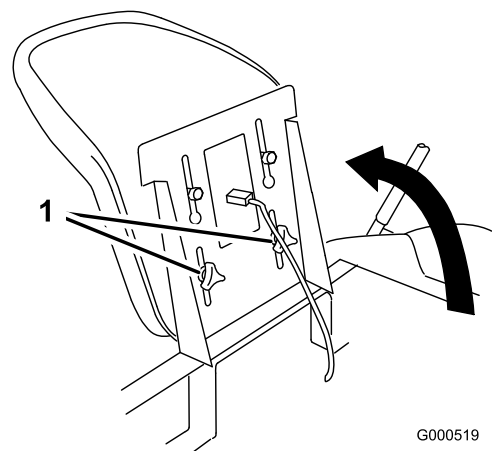

Figure 21
1. Raise the seat and loosen the adjustment knobs enough to move the seat (Figure 21).